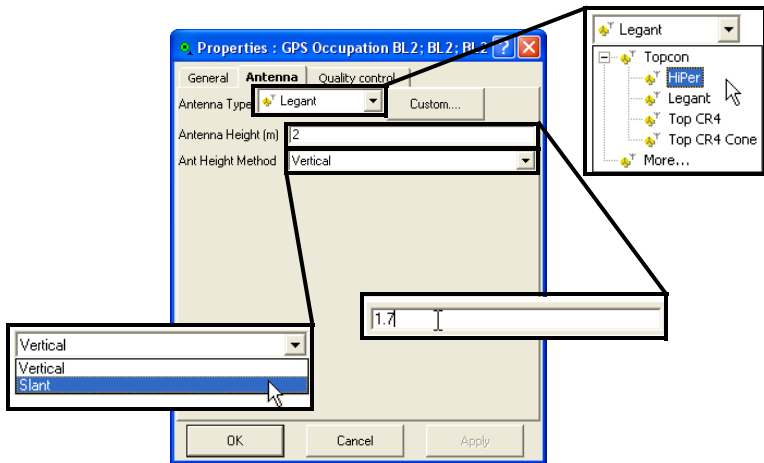

Figure 5-5. Enter New Parameters
- On the **Antenna** tab and change the *Antenna Type*, *Antenna Height*, and *Ant Height Method* as needed (Figure 5-5 on page 5-9).